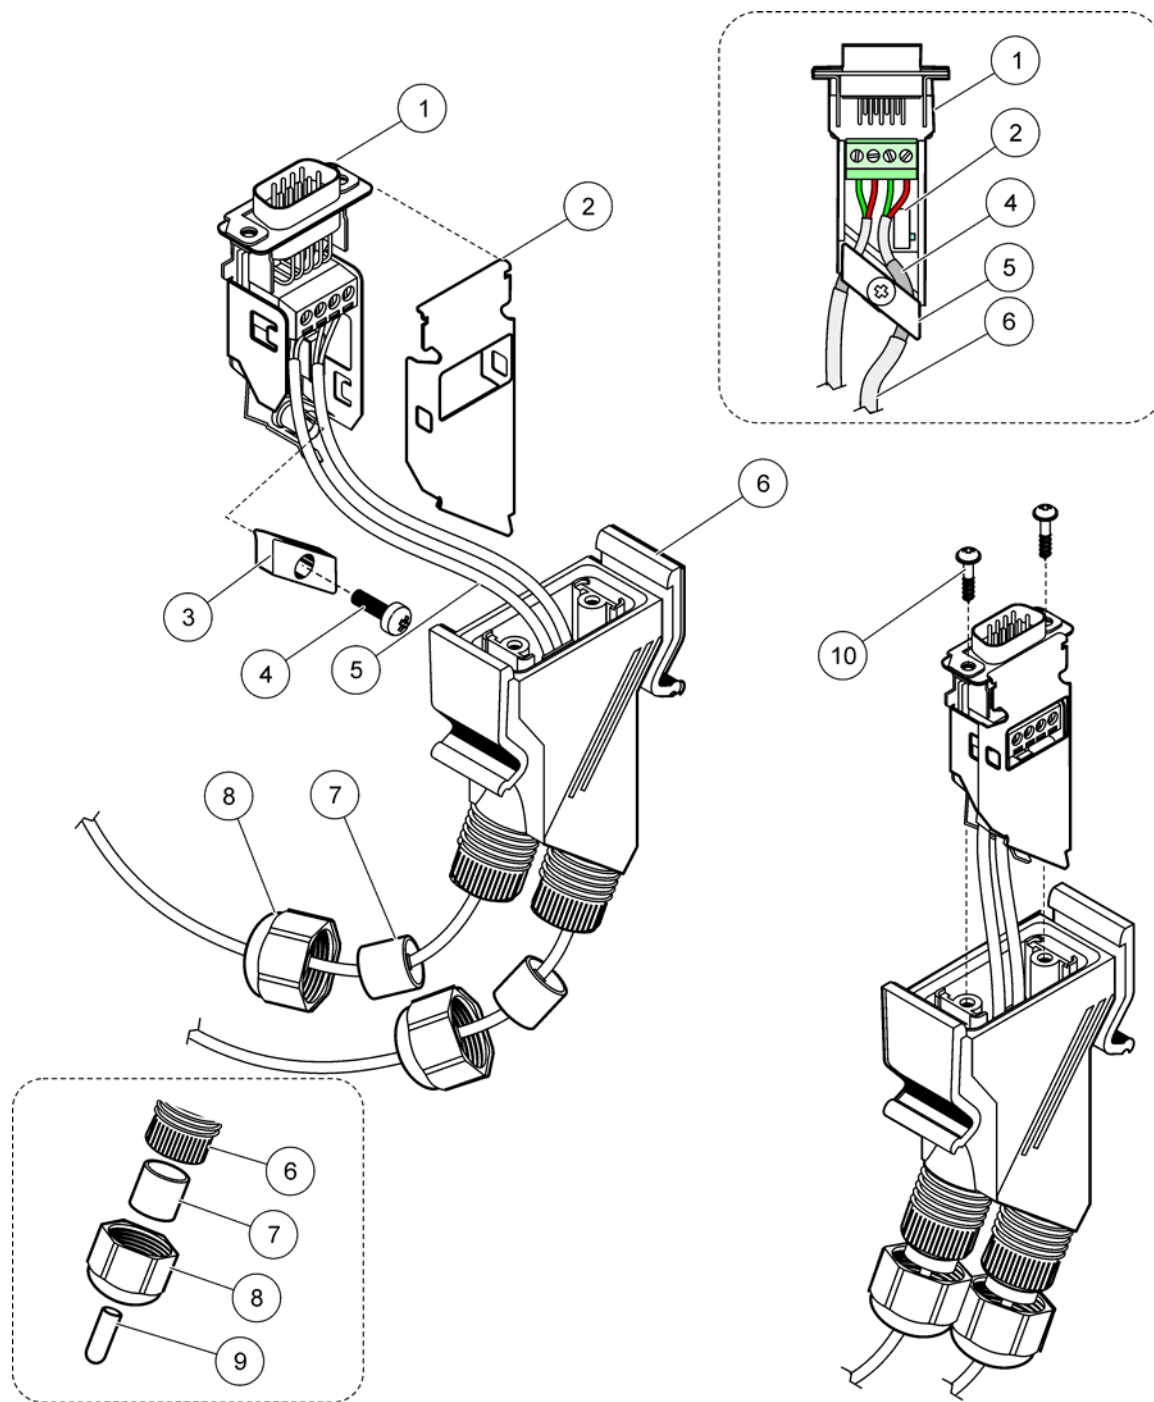

Figure 31 Connecting the network connector to the sc1000 network terminating resistor
2. Feed the cable through the union nut, rubber seal, and connector housing (Figure 31).
**Note:** When using the connector with the last module on the network segment, one union nut remains unused. Seal the union nut with the plug supplied. Refer to Figure 31.
2 Use this plug if the cord grip is not used, refer to inset in Figure 31.